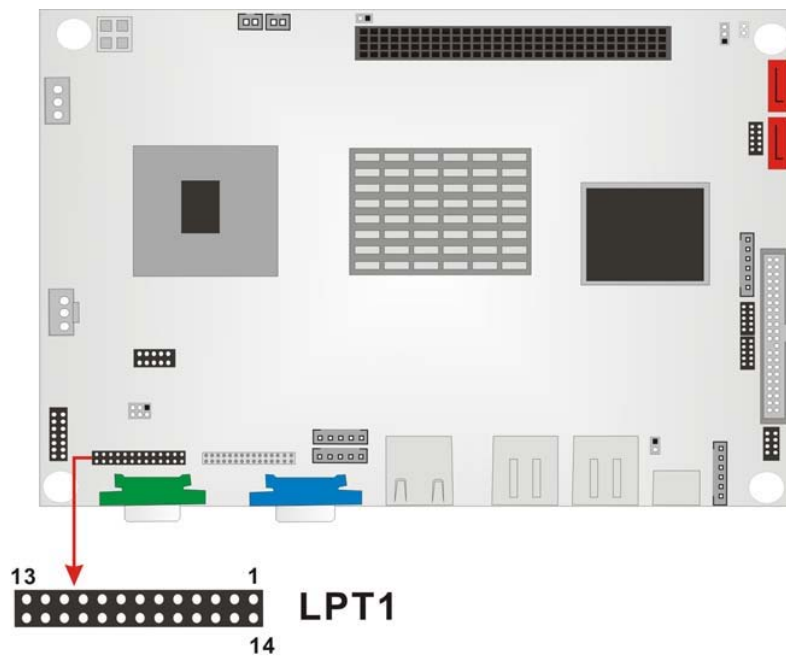

Figure 3-18: Parallel Port Connector Location
- CN Location:** See Figure 3-18